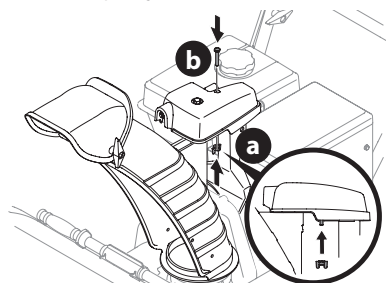

Figure 9
3. Finish securing chute control head to chute support bracket with wing nut (or locknut if equipped) (a) and hex screw (b) removed in Step 1 (Figure 9).